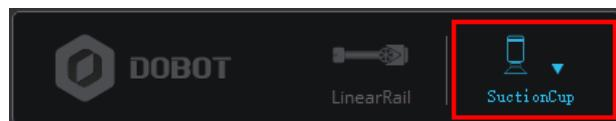

Figure 5.100 Choose SuctionCup as the end-effector
**Step 2** Choose **SuctionCup** as the end-effector on the **DobotStudio** page, as shown in Figure 5.100.